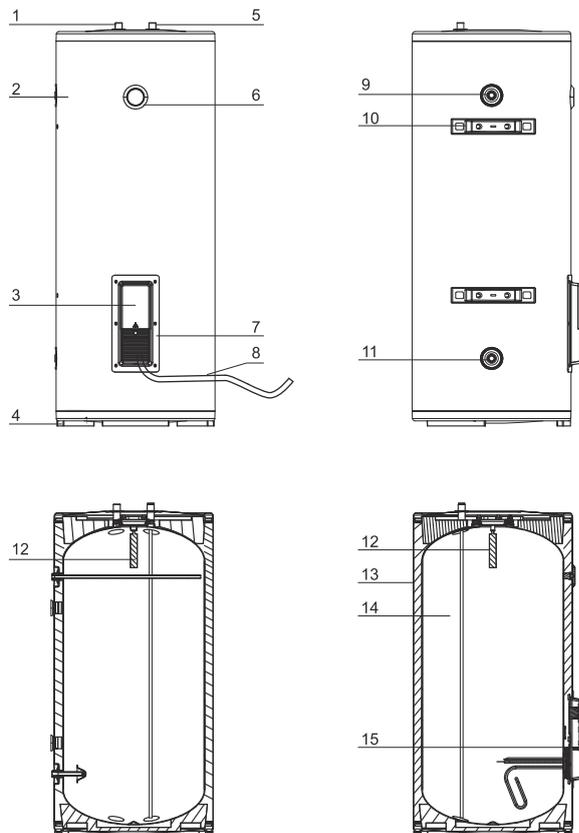
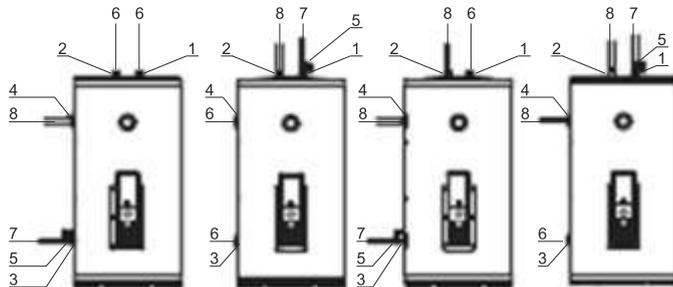

Fig. 2
Fig. 4
The water heater design is shown in Figure 2.
3. For convenience of connection to water supply network, the water heater design provides for 2 inlet and 2 outlet nozzles. Inlet nozzle «I» and outlet nozzle «I» are situated in upper part of the water heater. Inlet nozzle «II» and outlet nozzle «II» are situated on the left side of the water heater (see Fig. 2). Options of possible connection of the water heater to the water supply network are shown in Figure 4.
4. Depending of delivery lot, there may be additional fixing of the water heater on the wall using support arms, while connecting the water heater to the water main with the use of upper nozzles (see Fig. 2).